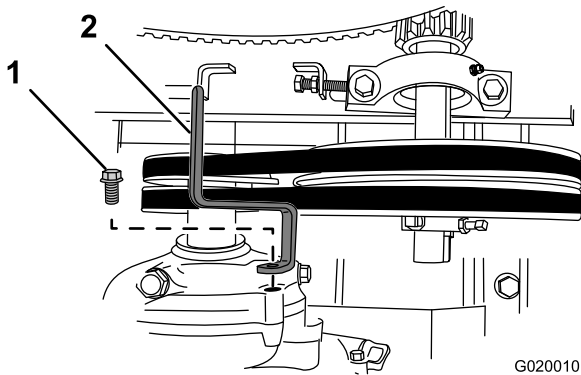

Figure 72
3. Remove the bolt that secures the belt guide to the engine, and remove the belt guide (Figure 72).
7. Loosely secure the belt guide to the engine (Figure 72) with the bolt that was removed in step 3 of Removing the Belts (page 40).